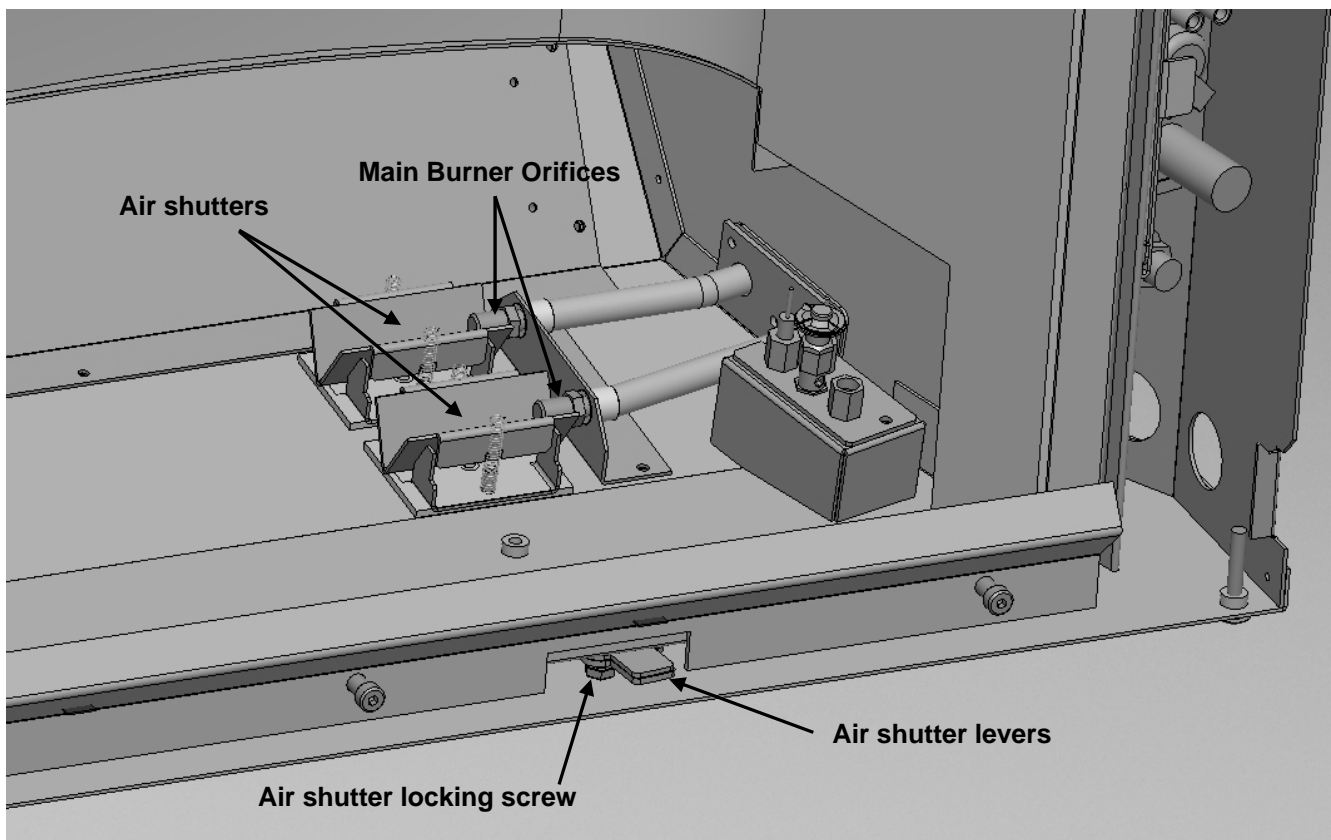

Figure 1
5. Place the two air shutters back in their original cradles. Ensure you carefully align the springs onto the slots on the air shutters. Loosen (but do not remove) the screw that locks the air shutters in place. Adjust the air shutters to a preliminary fully closed position (for NG) by sliding the air shutter levers all the way to the Left. Moving the levers to the right will open the air shutters. When the shutters are in the desired initial position tighten the locking nuts finger tight. See *Figure 1* below.